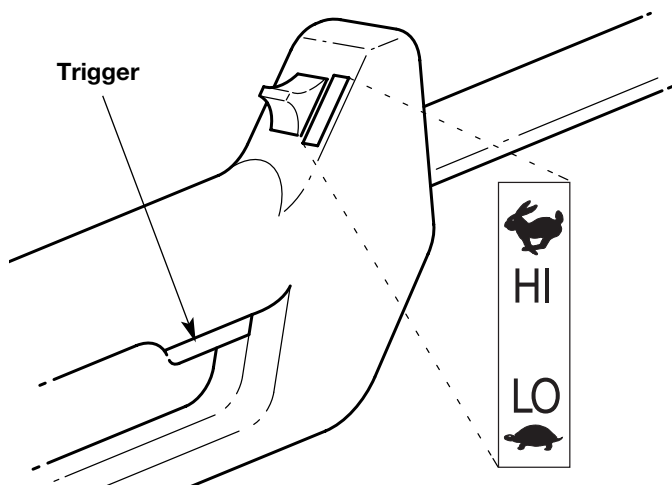

Fig. 10
**CAUTION:** Lock the release button in the primary hole (Fig. 10) and securely tighten the knob before operating this unit.
Once the unit is plugged in, stand in the operating position (Fig. 11). Squeeze the trigger to start the unit. To stop the unit, release the trigger (Fig. 10).
Push the switch up for high speed trimming, down for low speed trimming (Fig. 10).